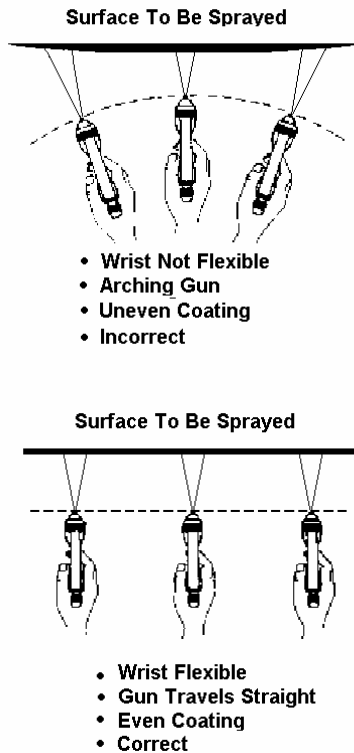

Figure 19 - Spray Techniques
(3) With the fluid adjusting screw open to the first thread, and the air pressure set at approximately 30 psi, make a few test passes with the gun on some clean paper. If there are variations in particle size- specks and/or large globs - the paint is not atomizing properly (see Figure 19).
(4) If the paint is not atomizing properly, increase the air pressure slightly and make another test pass. Continue this sequence until the paint particle size is uniform
Arcing the stroke results in uneven application and excessive overspray at each end of the stroke. When the tip is arced at an angle 45 degrees from the surface (see figure 19), approximately 65% of the sprayed material is lost.